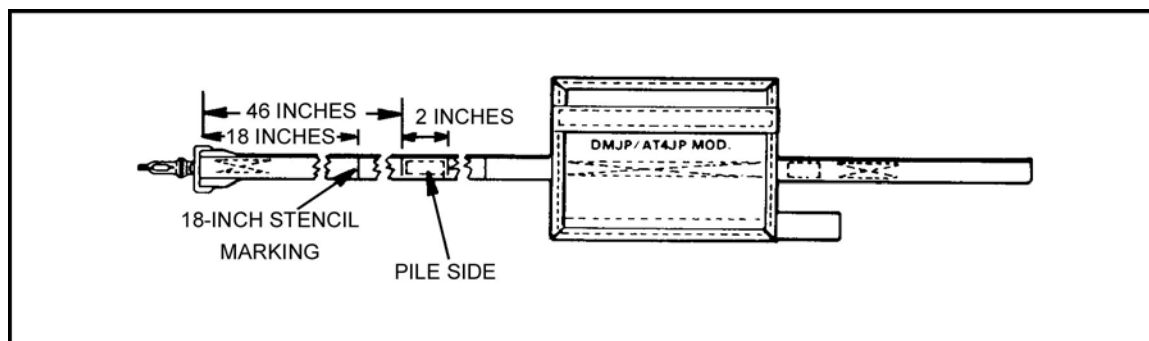

Figure 12-4. Method for attaching HPT and stencil markings.
(1) Stitching will conform to FED-STD-751, Type 301, 7 to 9 stitches per inch.
(2) Ends of stitching will be over-stitched not less than 1/2 inch.
c. **Modification Procedure** (Figure 12-4).
(1) Carefully cut the stitching that secures the 2-inch-long HPT located about 11 3/4 inches from the ejector snap end and remove cut stitching.
(2) Cut a 2-inch length of HPT. (If the previously removed HPT is undamaged, it may be used in lieu of replacement tape.)
(3) Place marks 46 and 48 inches from the folded web edge ejector snap end on the same side of the removed 2-inch HPT of the 1-inch-wide lowering line.
(4) With pile side facing up, position the 2-inch HPT between the markings and stitch with a single box stitch formation.